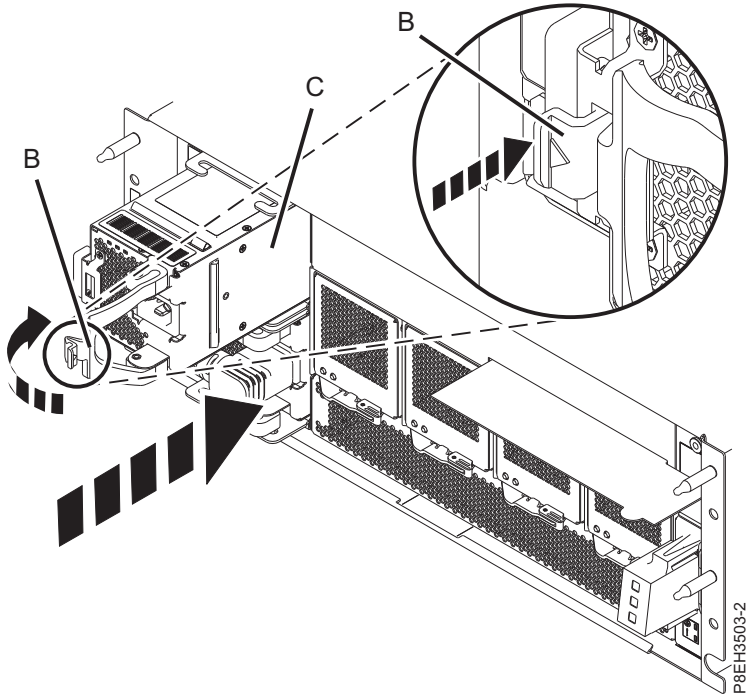

Figure 25. Replacing the power supply in the EMX0 PCIe3 expansion drawer
19. Holding the handle **(B)** and by using your hand to support the bottom of the power supply **(C)**, align the power supply with the power supply slot and slide it into the bay. See Figure 25 on page 18.
20. Rotate the handle **(B)** and then push it in to lock it in place, as shown in Figure 25 on page 18.